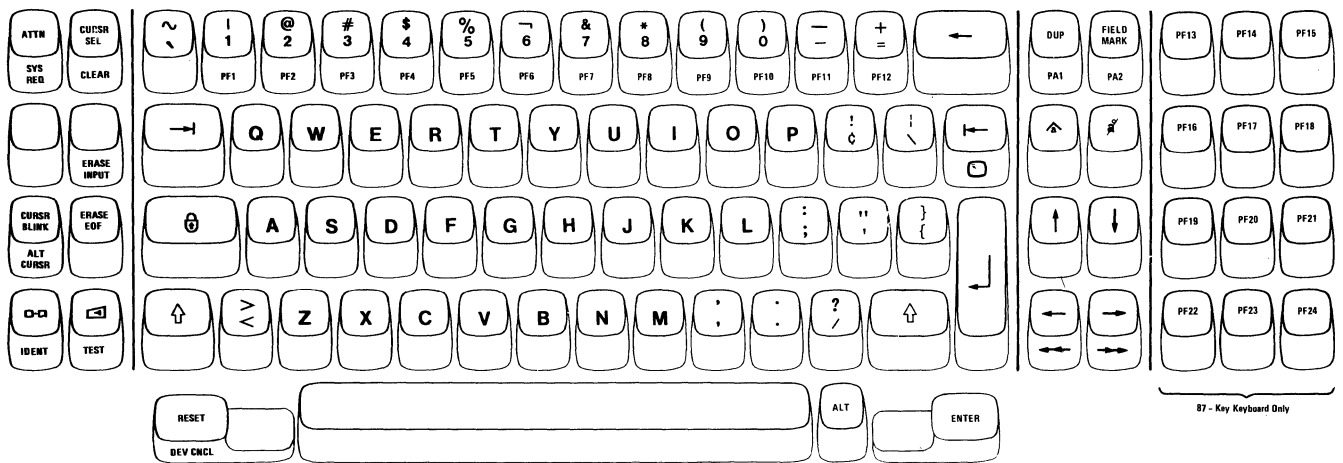

Figure 3-2. 3276 Typewriter Keyboard
1. The Typewriter keyboard (Figure 3-2), which resembles a typewriter keyboard